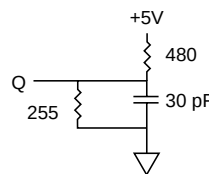

Fig. 1 OUTPUT LOAD EQUIVALENT
| Output load .....                   | See Figures 1 and 2 |
5. Test conditions as specified with the output loading as shown in Fig. 1 unless otherwise noted.